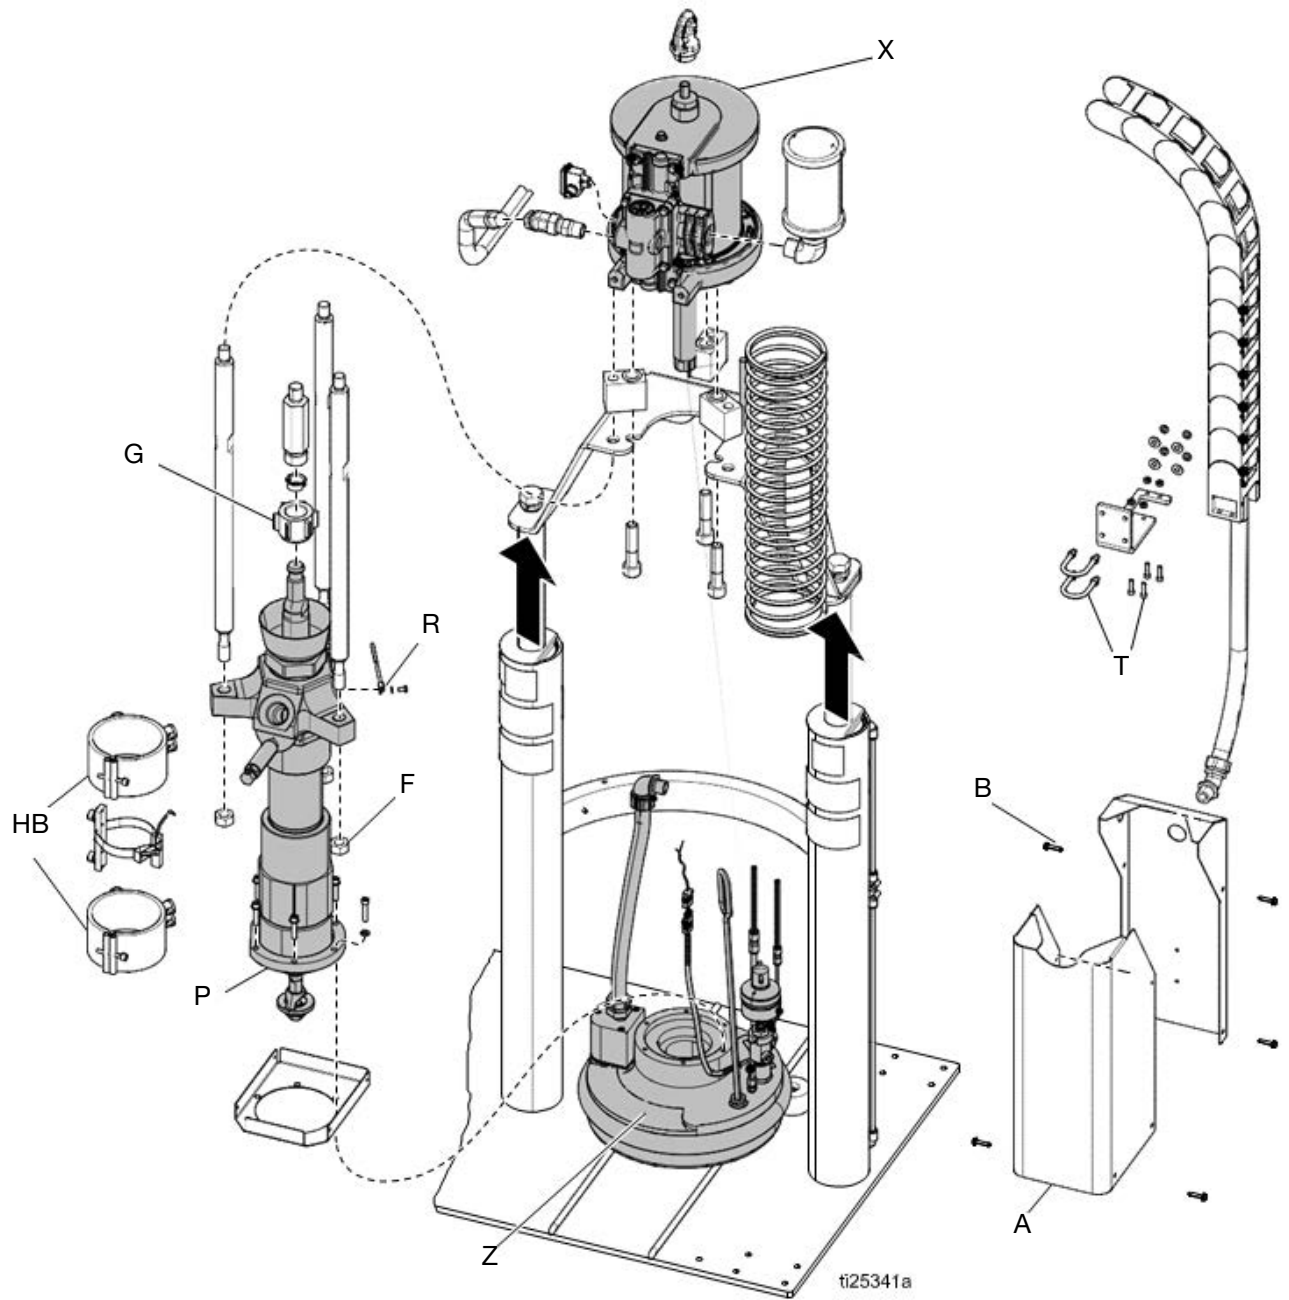

FIG. 29
2. Make sure the Ram plate is down and the Ram Director Valve (CC) is in the neutral position.
5. On the ADM, turn off the system heat (D).
8. If the system includes a Pump shield, remove the Pump sheet metal enclosure (A). See FIG. 29.
- a. Remove the cover screws (B).
- b. Remove the heater bands (HB) and disconnect the ground wire (R).
11. Disconnect the electrical cable from the Air Motor (X).
13. Remove nuts (F) from Pump/Air Motor tie rods at the Pump end.
14. Remove the nuts and bolts (T) holding the cable tract to the Air Motor support plate. Slide the end of the Cable Track outboard of the mounting plate.
16. Fully loosen the Pump rod coupler (G) to the Air Motor rod.